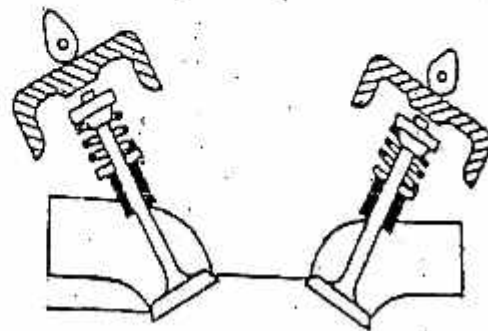

Fig. 3.31. Double overhead camshaft-operated mechanism with inverted bucket type followers
- Fig 3.31 shows double overhead camshaft arrangement (DOHC) in which both inlet and exhaust valves are driven by individual camshaft.